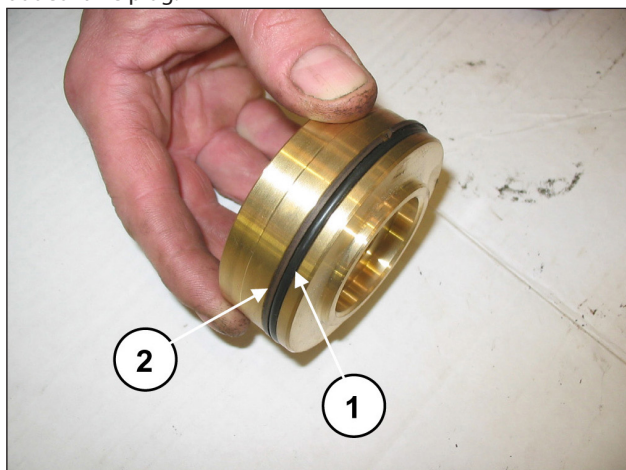

Fig. 125
Fit the O- ring, exploded view pos. 17 (pos. ①, Fig. 125) and back-up ring, exploded view pos. 21 (pos. ②, Fig. 125) on the outlet valve plug.